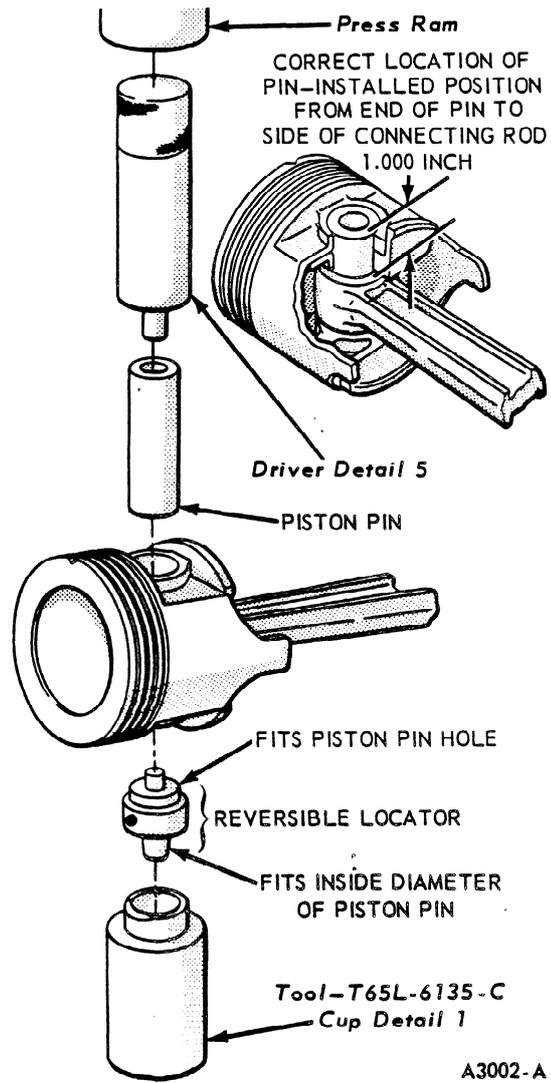

FIG. 69 Installing Piston Pin
2. Start the piston pin in the piston and connecting rod. Using an arbor press, press the piston pin through the piston and connecting rod until the pin is centered in the connecting rod (Figure 69).